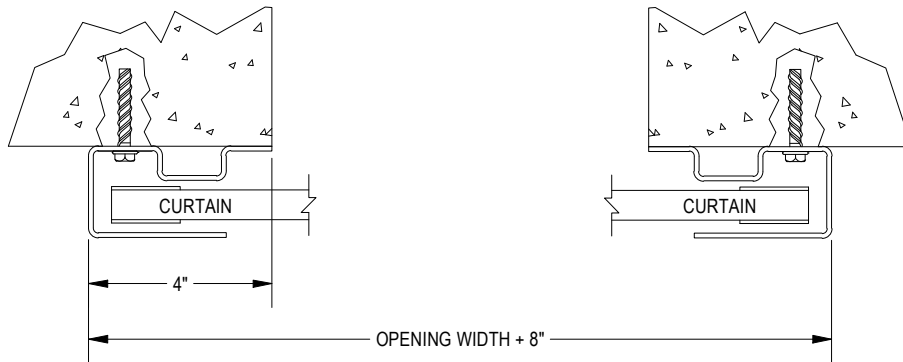

FIGURE 9: CONCRETE/MASONRY JAMBS
- ▶ **MASONRY JAMBS:** $\frac{1}{4}$ " X 1- $\frac{3}{4}$ " WEDGE BOLT. **SEE PAGE 9 FIGURE 9.**